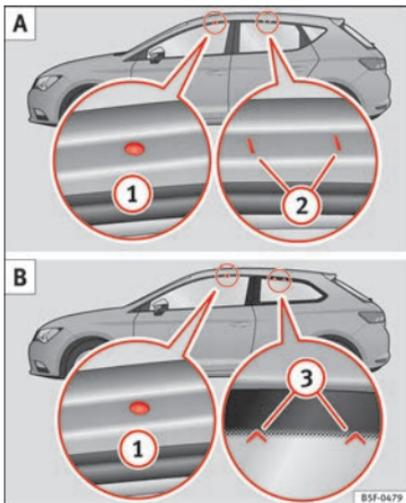

Fig. 138 Leon/Leon SC: attachment points for the roof railings for the roof carrier system.
The front and rear attachment points ① and ② are only visible when the doors are open »» **Fig. 138 A.**
rear attachment points ③ are marked on the top edge of the glass with arrow heads »» **Fig. 138 B.**